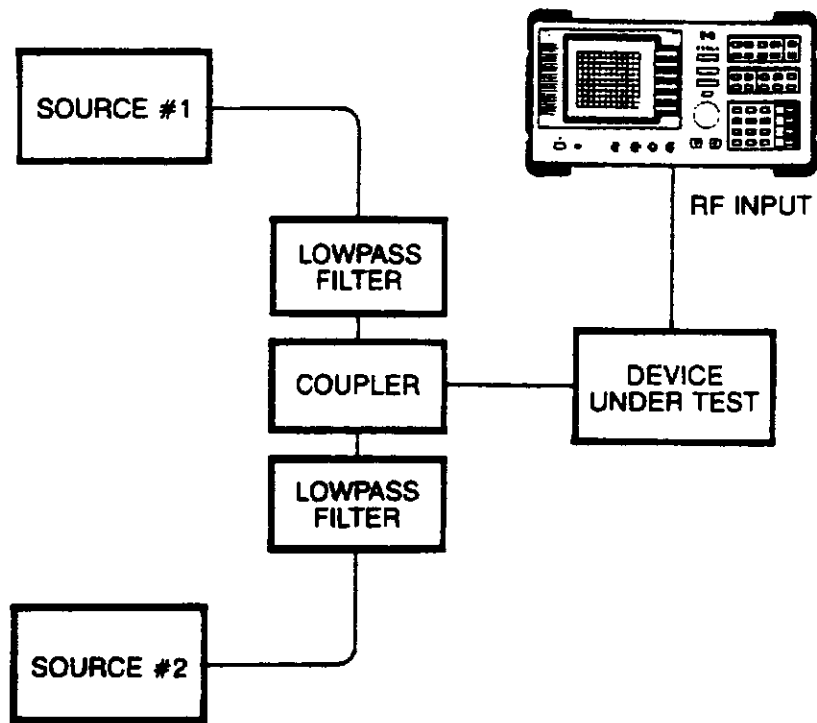

Figure 2-14
1. Connect the equipment as shown in Figure 2-14.